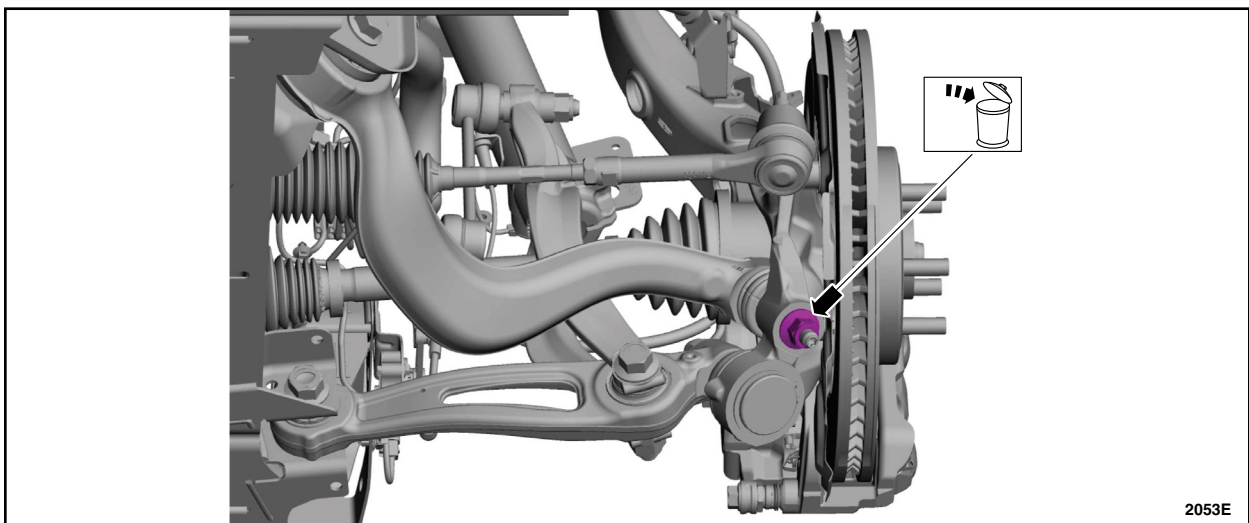

FIGURE 5
10. Remove and discard the front lower arm outboard nut. See Figure 5.